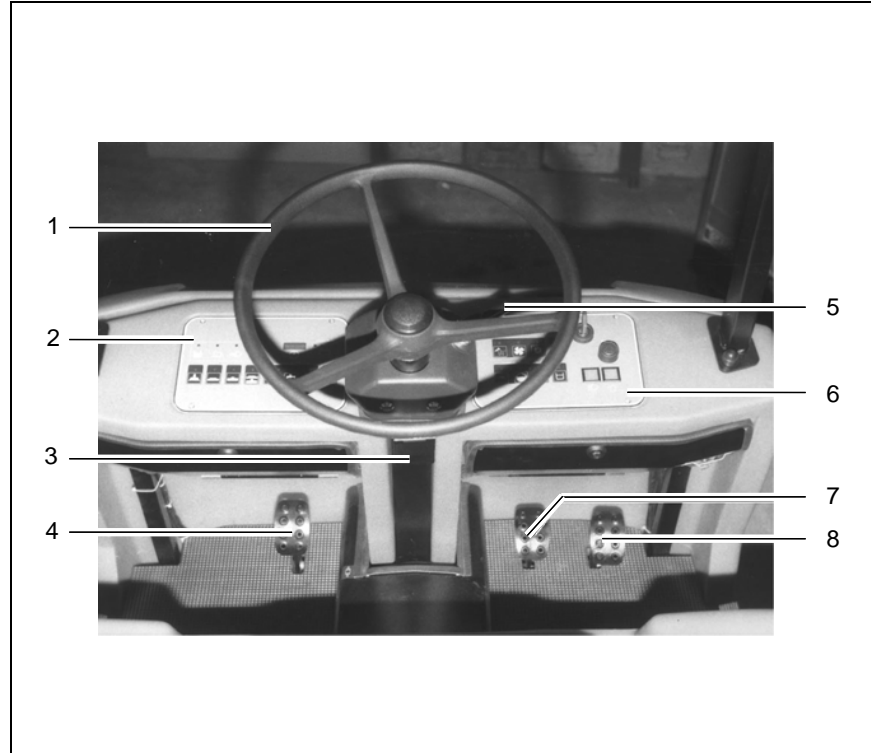
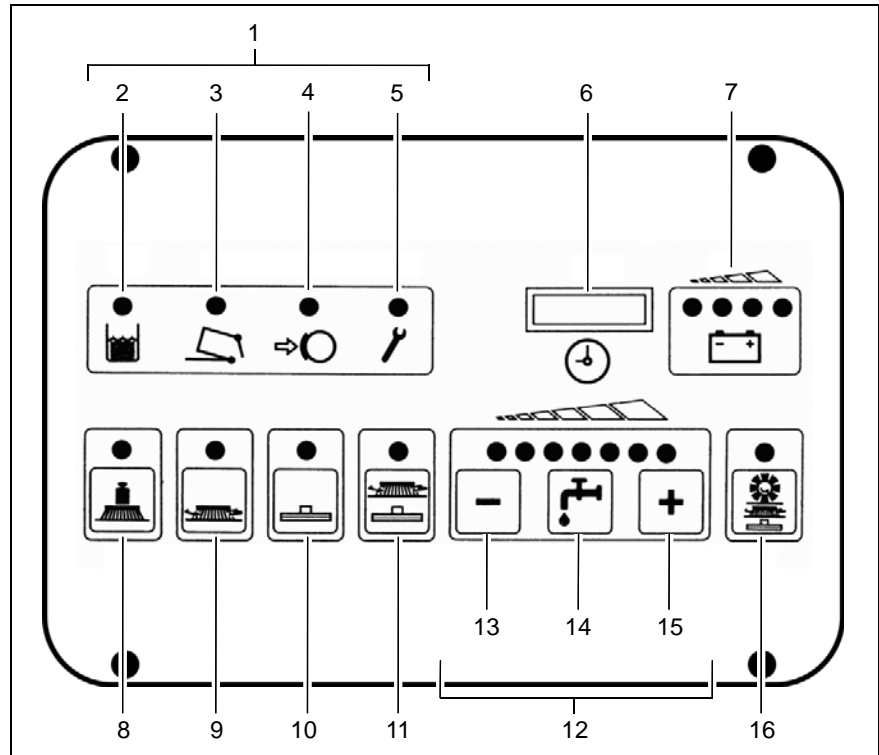

Fig. 18
Fig. 19
(Fig. 18/1)
(Fig. 18/2)
(Fig. 18/3)
(Fig. 18/4)
- When the parking brake is applied, the corresponding control lamp on the operating panel (Fig. 19/4) lights up red.
Before getting out of the vehicle apply the parking brake, set the driving direction switch (Fig. 18/5) to its neutral position and switch the key switch to off.
(Fig. 18/5)
(Fig. 18/6)
(Fig. 18/7)
(Fig. 18/8)
- Before actuating the accelerator, use the driving direction switch (Fig. 18/5) to set the direction of travel: forwards or reverse.
- To stop securely, apply the service brake (Fig. 18/7).
An acoustic warning signal (buzzer) is issued should the hydraulic motor overload. At the same time, the red alarm lamp (Fig. 18/5) lights up in the left-hand operating panel (Fig. 19/2) and the driving speed is reduced by approx. 50%. In addition, an error code appears in the service indicator (Fig. 19/6).
3.2.2 Left-hand operating panel (Fig. 19)
(Fig. 19/1) The indicator field enables the scrubber drier to provide feedback on the operating status of the vehicle. This only relates to operating states which cannot be switched on and off via the operating panel: recovery tank full, dirt hopper for pre-sweep/vacuum unit full, parking brake applied and error message.
(Fig. 19/2) The yellow control lamp lights up when the recovery tank has reached its maximum fill level. Also, a “beep” signal is issued every 15 seconds. In this case, a float switch switches the suction turbine off and the squeegee is raised.
(Fig. 19/3) The control lamp lights up red when the dirt hopper is not properly inserted (engaged) or the front flap is not properly closed.
(Fig. 19/4) The control lamp lights up red when the parking brake has been actuated via the pedal to the left of the steering column. If the traction drive is switched on, an acoustic signal is also issued.
Indicator for function faults (Fig. 19/5)
At the same time, a four-digit code appears in the display of the service indicator (Fig. 19/6). This error code infers which fault has occurred (refer to Section 3.5.1). At the same time, the control lamps flash and an acoustic, pulsating signal is issued.
(Fig. 19/6) The four-digit LED serves to display the operating hours.
(Fig. 19/6) The four-digit LED serves for a more accurate determination of function faults. If a
Battery and charge control indicator (Fig. 19/7)
Button for brush pressure (Fig. 19/8) This button is used to increase the brush pressure. This may be necessary when the area to be cleaned is extremely dirty.
Button for the brush drive (Fig. 19/9) This button serves to switch the brushes and fresh water supply on and off with simultaneous, respective lowering and raising of the brush head.
(Fig. 19/10) This button serves to switch the suction turbine on and off with simultaneous lowering and raising
(Fig. 19/11) After pressing
(Fig. 19/12) The
(Fig. 19/13) The button serves to reduce the fresh water quantity supplied to the brushes. The fresh water
(Fig. 19/14) This button serves to switch the fresh water supply on and off when the brush head is lowered.